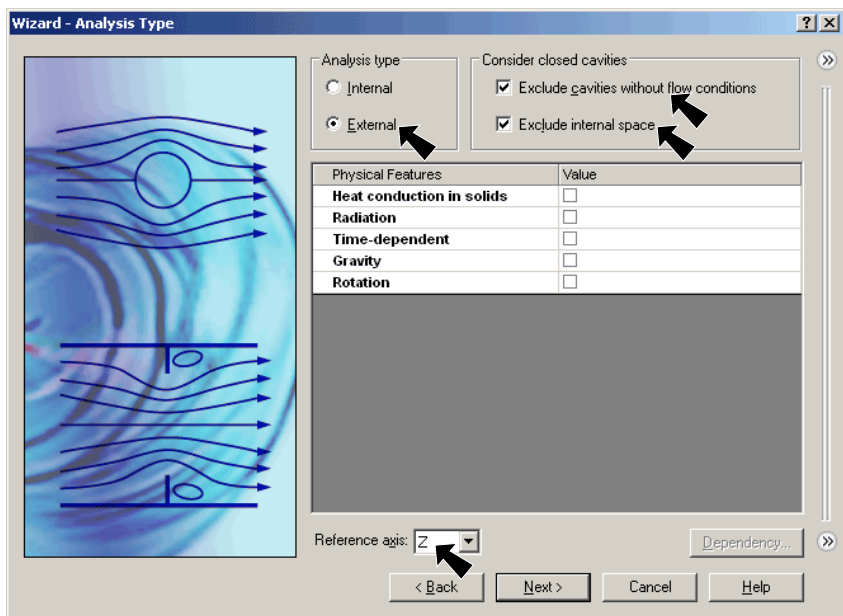

Fig. 5
Step 9. **Analysis Type:** Under Analysis type, select **External**, Fig. 5.
Step 10. Check **Exclude cavities without flow conditions** and **Exclude internal space**, Fig. 5.
Step 11. Set **Reference axis** to **Z**, Fig. 5.